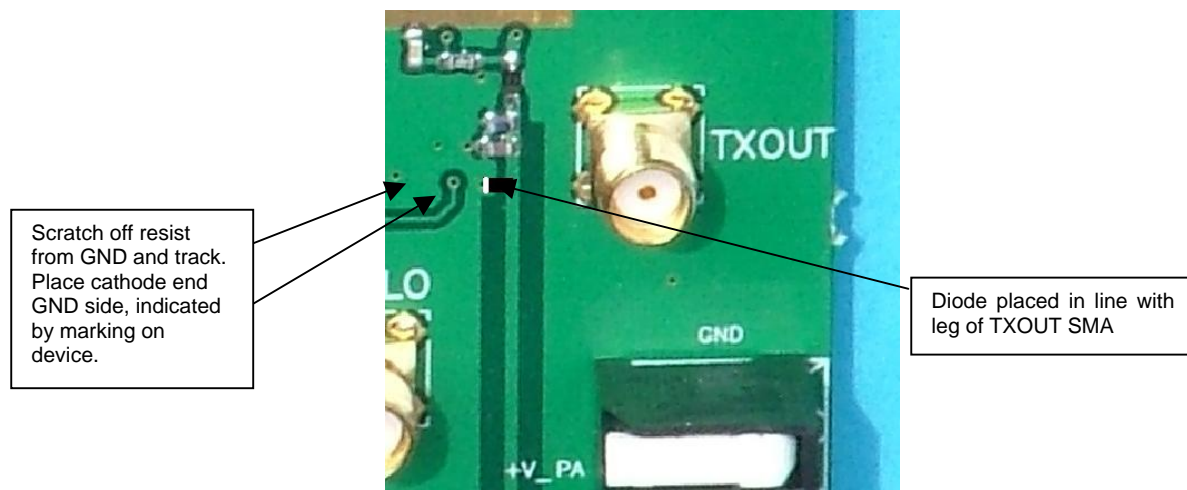

Figure 4 – Picture of relevant area for new placement of D3
- Use a 0R to link out D3's usual placement. Then D3 should be placed as shown in *Figure 4* then is done by removing some PCB solder resist from the long track in the RX path near J16 (placed in line with leg of J16 as shown below) and also some resist from the nearby GND plane has to be removed. D3 = BAR63_02W. D3 connections are cathode to GND and anode to track (signal).